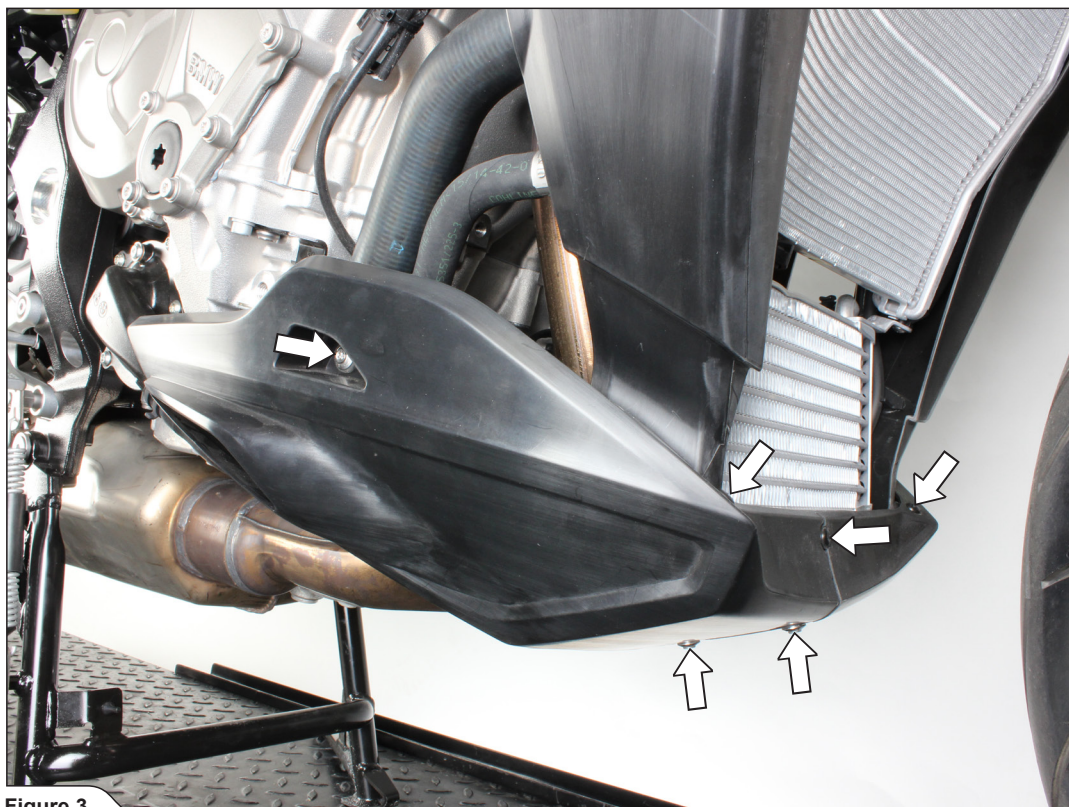

Figure 3
3. Unscrew the marked bolts and undo the plastic fasteners on both sides of the motorcycle and carefully remove the lower part of the cowling off the motorcycle (Figure 3).